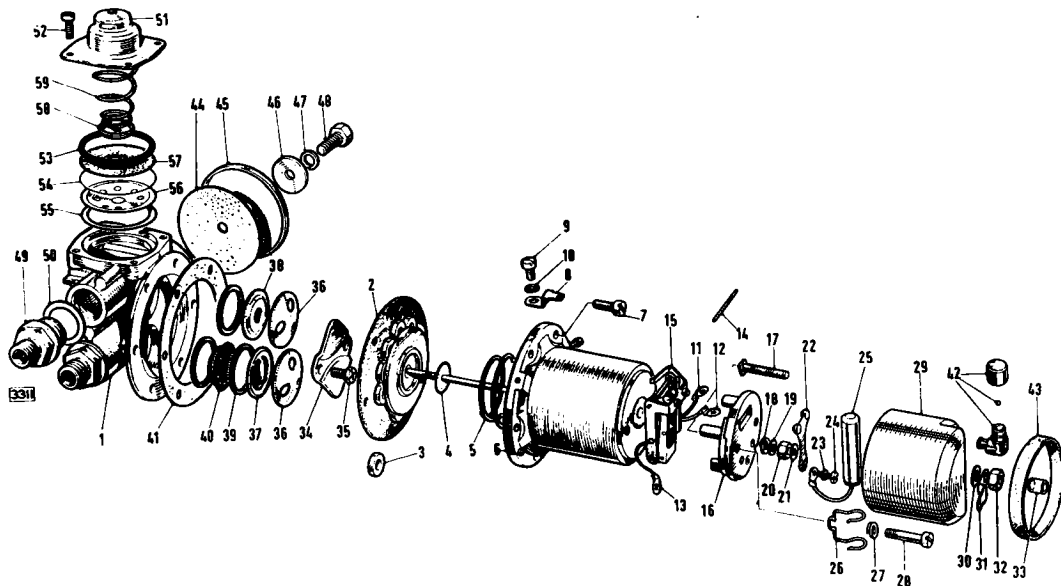

Fig. 15. Exploded view of the petrol pump.
DISMANTLING (Fig. 15)
Invert the pedestal and fit the rocker assembly to it by pushing the steel pin (14) (Fig. 15) through the small holes in the rockers and pedestal struts. Then position the centre toggle so that, with the inner rocker spindle in tension against the rear of the contact point, the centre toggle spring is above the spindle on which the white rollers run. This positioning is important to obtain the correct "throw-over" action; it is also essential that the rockers are perfectly free to swing on the pivot pin and that the arms are not binding on the legs of the pedestal.
Place the armature spring into the coil housing with its larger diameter towards the coil (Fig. 15).
Place the sealing washer in the bottom of the delivery flow-smoothing device recess, (see Fig. 15) follow this with the perforated diaphragm plate, dome side downwards, then the plastic barrier, followed by the rubber diaphragm. Insert the "O" section sealing ring into the recess and ensure that it seats evenly. Place the diaphragm spring, large end towards the vented cover, into the cover, place the spring end-cap on the small end of the spring, pass the assembly tool through the cover, spring, and end cap and turn it through 90° so that tension may be applied to the spring during assembly. Finally fit the spring and cap assembly onto the diaphragm, tighten the four retaining screws, and release the assembly tool. The pump should be pressure-tested after disturbance of the flow-smoothing device.